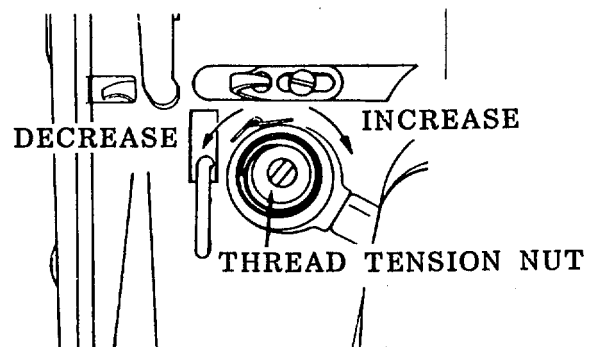

Figure 2-35. Needle Thread Tension, Adjustment.
- (3) Needle Thread Tension. Refer to Figure 2-35. Lower the presser foot onto the feed dog to close the tension disks. Adjust the needle thread tension with the tension adjust nut. Turn the tension nut right to increase tension and left to decrease tension.